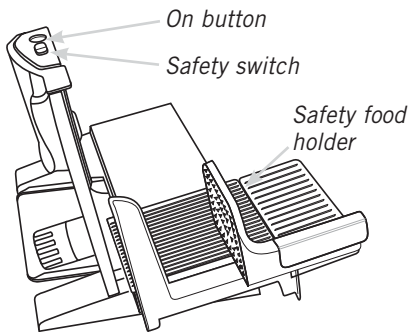

Figure 6
7. To operate the food slicer, grasp the safety food holder firmly with your right hand and push the safety switch forward with the left hand. Without releasing the safety switch, press down the 'ON' button at the same time. Keep pressing down the dual safety switch during slicing. See Figure 6.